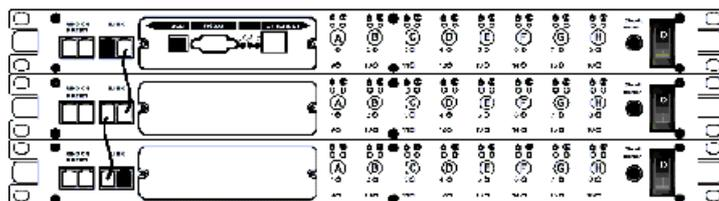

Figure 5 - Cascading three units
13. Make sure that the third ServPower Freelancer has the terminator plugged into the cascade port (see Figure 5).